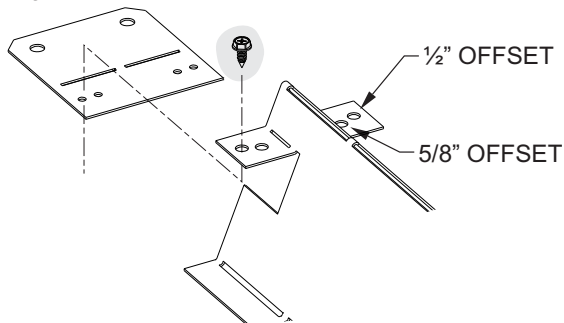

Figure 22
- Attach four (SP) or five (PP) top-side nailing flanges to the top stand-offs as shown in **Figure 22**. Leave the nailing flanges flat at this time. Note that while the non-combustible board provided with this fireplace is $\frac{1}{2}$ " thick, some adjustment of the nailing flange position can be made by using either the outer or inner pair of holes.